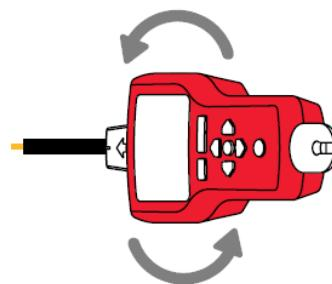

Figure 3.1h
6. To verify wire direction, periodically rotate receiver 90 degrees. Signal strength will be highest when wire is aligned with Tip Sensor groove. (see Figure 3.1h)